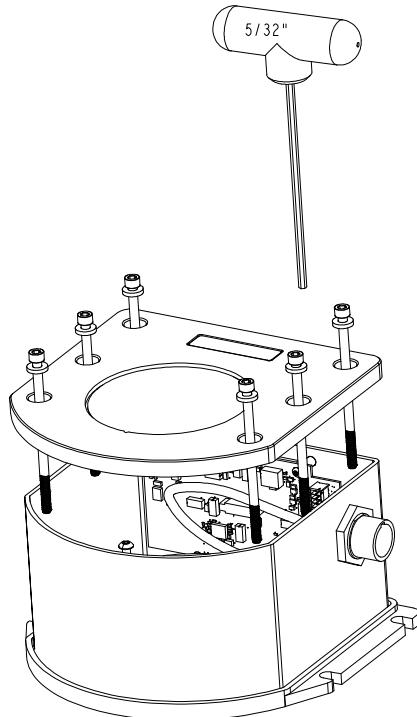

Figure 57: Bolts and Hex Key
1. Remove the top cover's six bolts using a hex key, as shown in *Figure 57*:
Use a hex key to align the long bolts with the threaded holes in the base, as shown in *Figure 57* on page 361. Apply threadlock to threads. Finger tighten all bolts and torque them in a cross pattern to 12 in-lbs. The fully assembled IMU enclosure is shown in *Figure 63*.